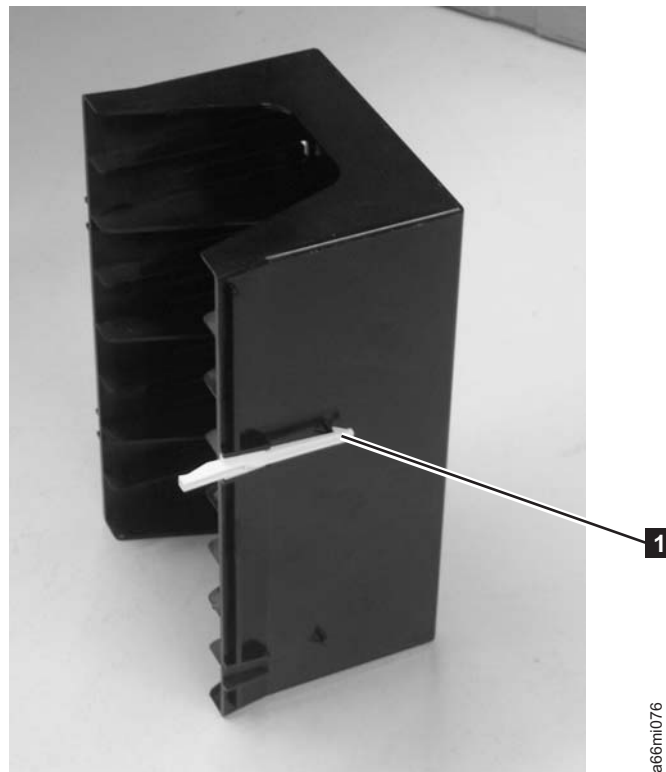

Figure 8-40. Fiducial on storage column
- b. Insert the new fiducial by sliding it into the slot until it locks into place (**1** in Figure 8-40).